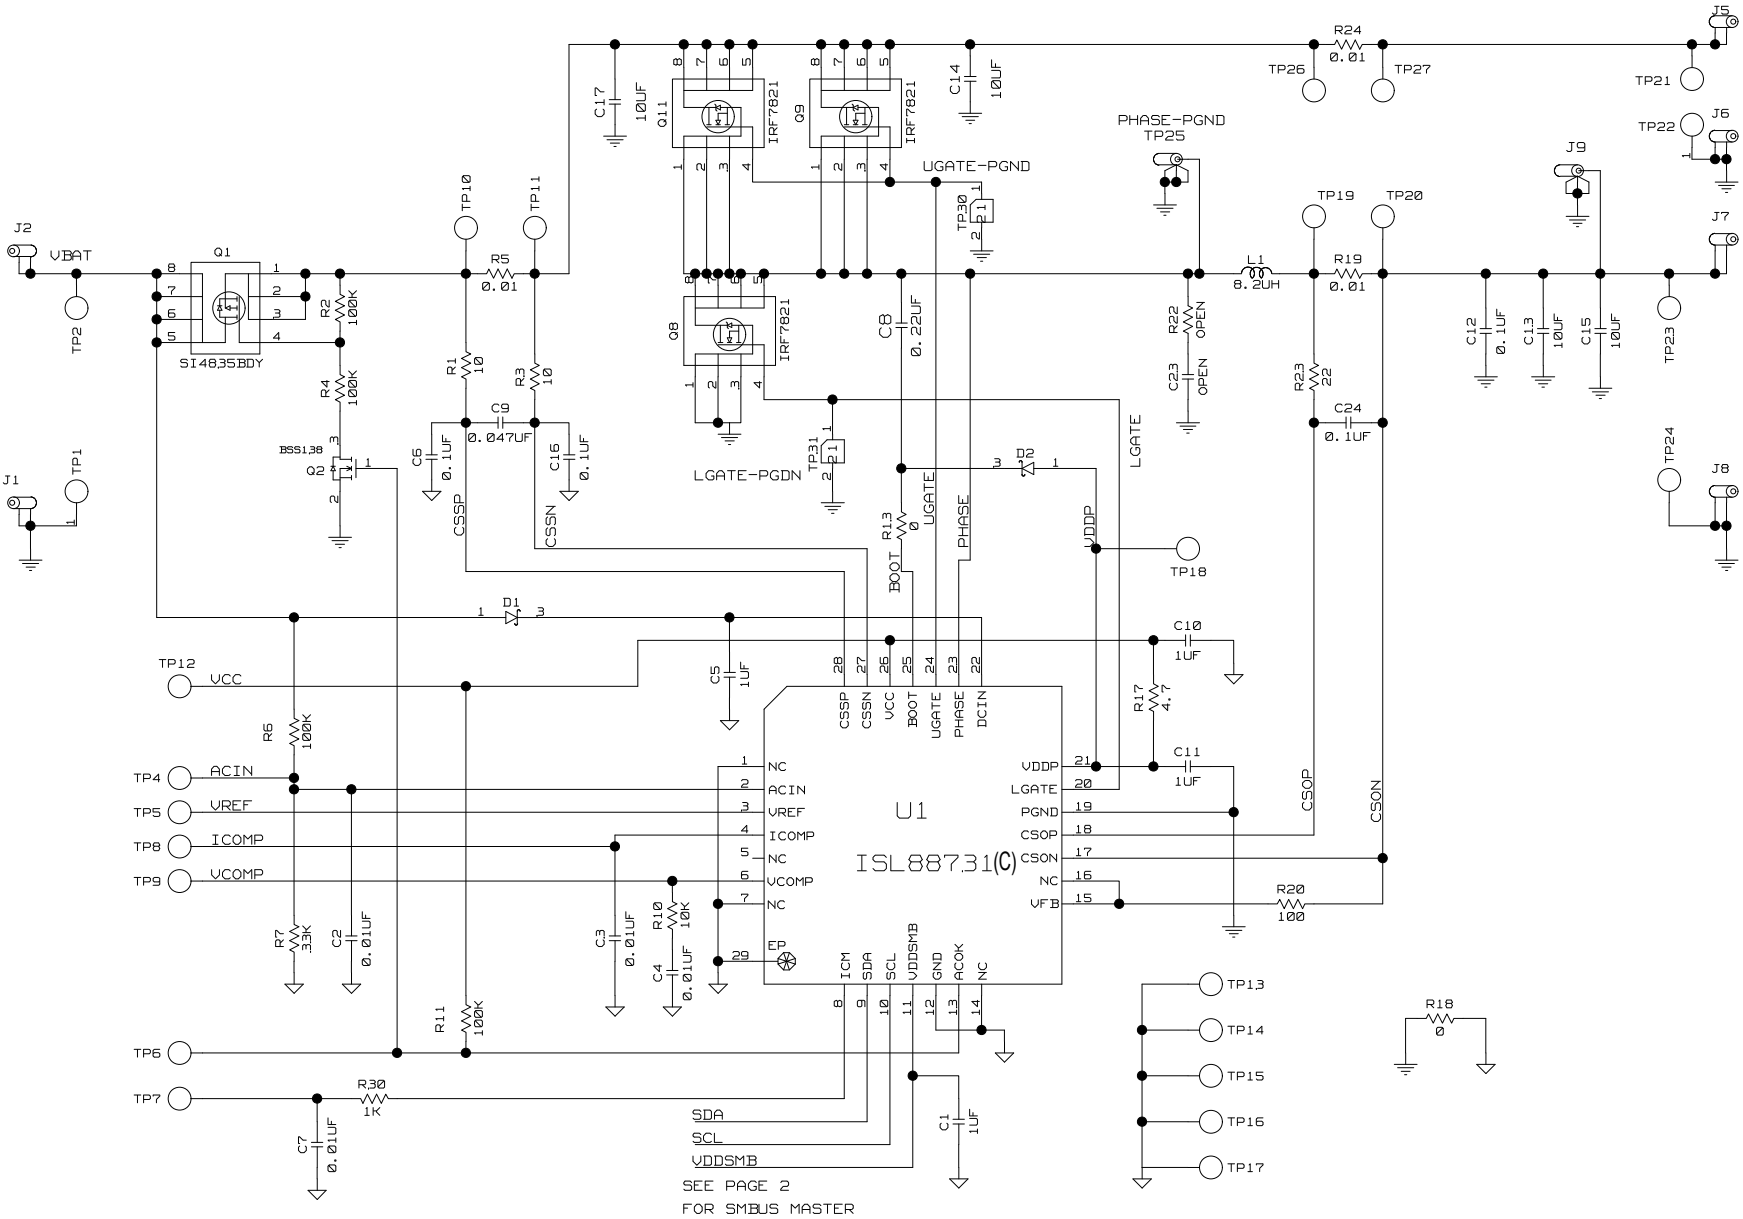

FIGURE 10. ISL88731(C)EVAL2Z SCHEMATIC
The ISL88731(C) is also disabled if the ACIN pin is below 3.2V. An Input voltage >13.1V will pull ACIN above 3.2V. The minimum input voltage can be adjusted on the evaluation board by changing R₆ or R₇ (see Figure 10).